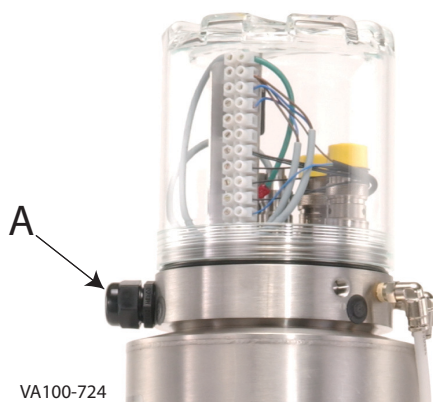

Figure 2 - Control Top Wire Connection Point
7. Connect the electrical control cord to the valve at location A (see Figure 2).